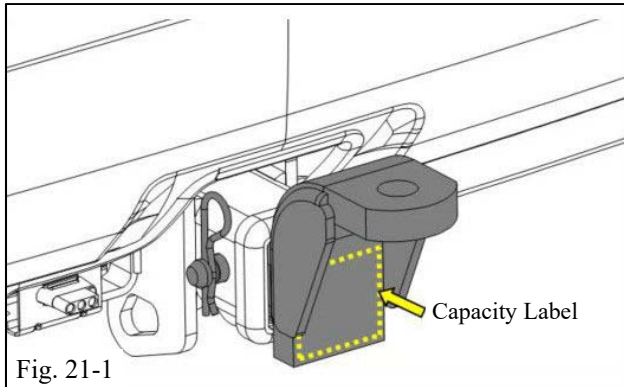

Fig. 21-1
- ⚠ (a) Clean the metal surface of the Ball Mount where the Capacity Label (Item #12 in the Kit Contents table) will be placed (Fig. 21-1).